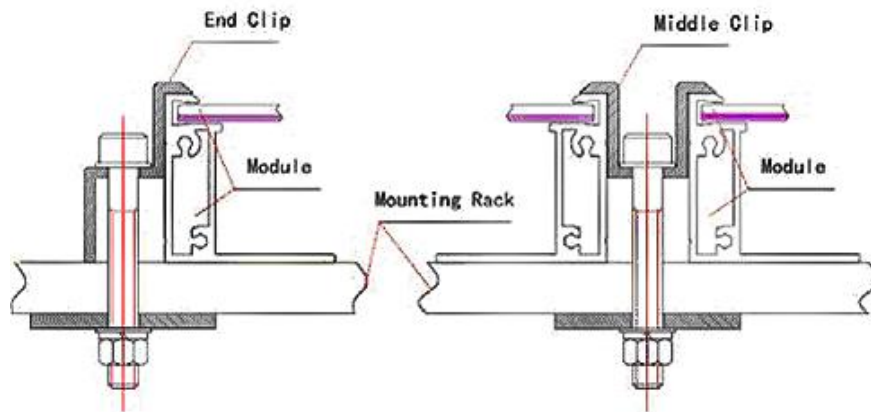

FIG 6 Clamping mounting method
- Using suitable module clamps on the side of the module frame to mount the modules, as shown in FIG 6. The thickness of the clamp should be no less than 3mm, the length should be no less than 50mm and the length of the overlap should be no less than 5mm.
- Modules should be mounted by screw, flat washer and spring washer on mounting rack. The clamp should be mounted in a symmetric position respect to the center, as shown in FIG. 6. The torque should